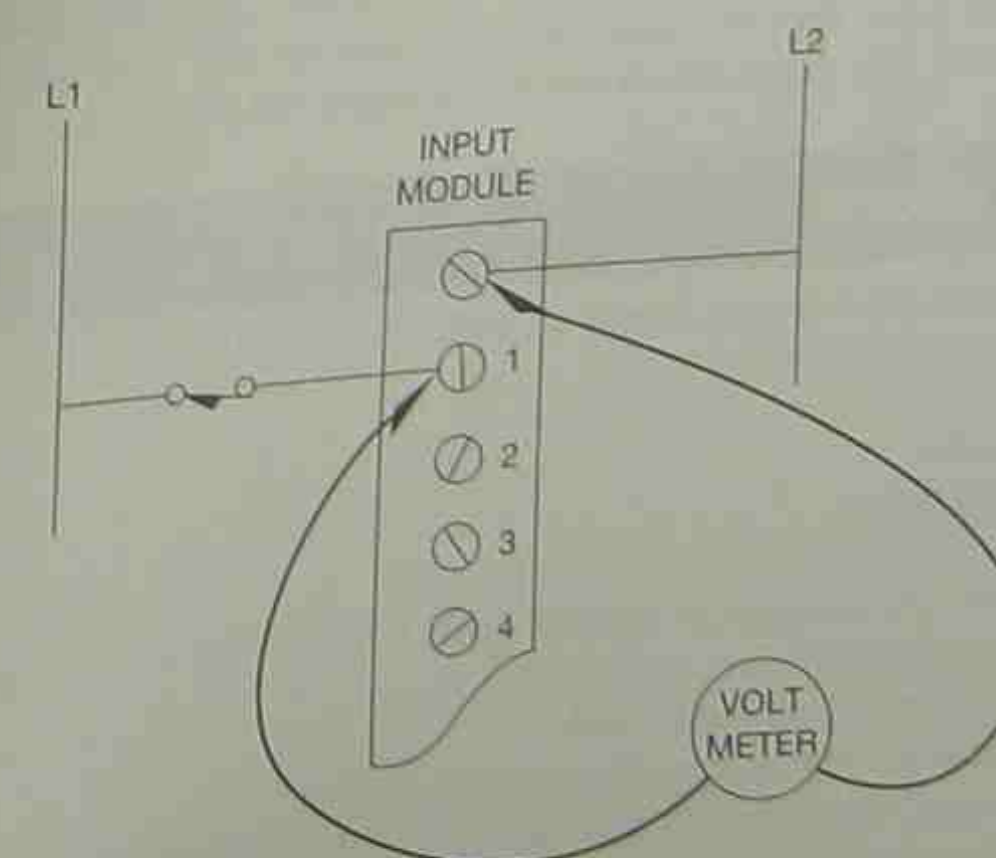

Figure 20-11 Testing Voltage on an Input Module
An illuminated LED indicates that the limit switch is closed, but that the state of the switch (ON) is not being communicated to the processor. Exchanging the input module should make the system operational. However, had the indicator LED for LS-1 not been lit, there could be several other operational problems such as a bad limit switch, faulty wiring from LS-1 to the input module, or a bad input module. Closing the limit switch and taking a voltage check as shown in Figure 20-11 determines if the limit switch and associated wiring is operational.